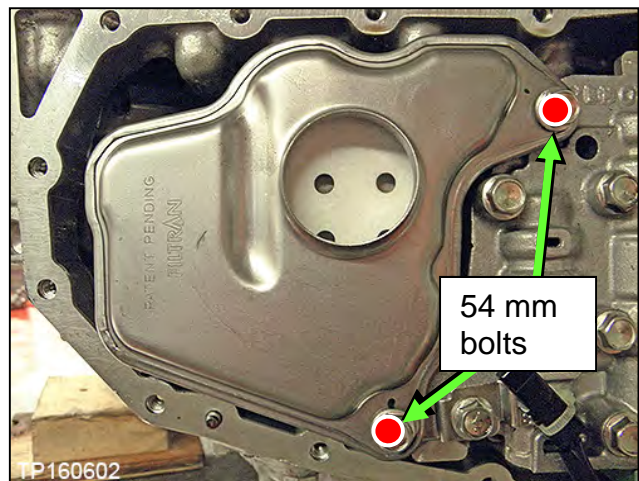

Figure 27
15. Install the new oil strainer with its new O-ring seal with two (2) bolts (Figure 27).